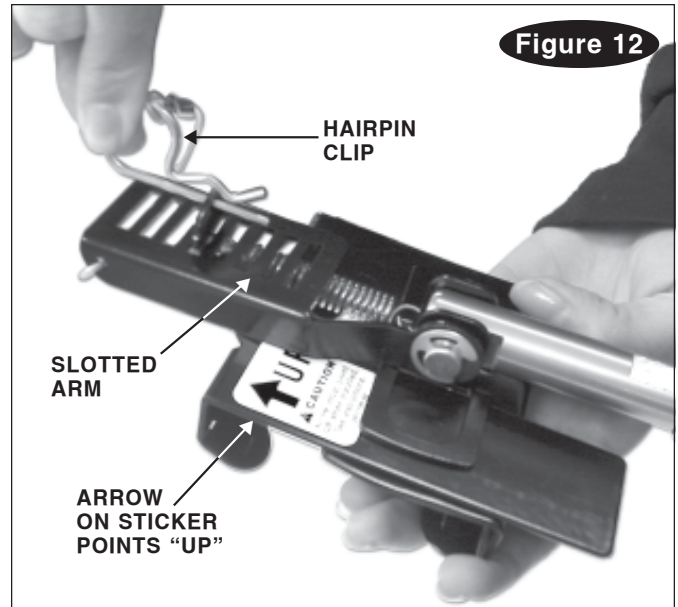

Figure 12
7. Pull the hairpin clip (Figure 12) out, then lift the slotted arm (Figure 12) up and out of the way.
8. Verify that the pedal clamp is right side up, as shown in Figure 12 – the arrow on the sticker will point “Up” when the pedal clamp is properly positioned.